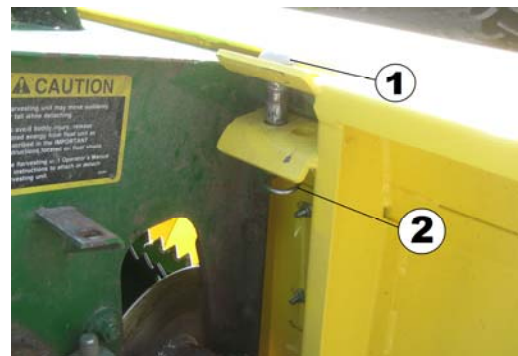

Figure 7. Top Mounts
4. Pull harvester into the pick-up unit and secure top in place with two pins, one on right and left side, supplied with the Model 3975 Pull-Type Forage Harvester. Use pin holes closest to the feedroll housing. See Figure 7.